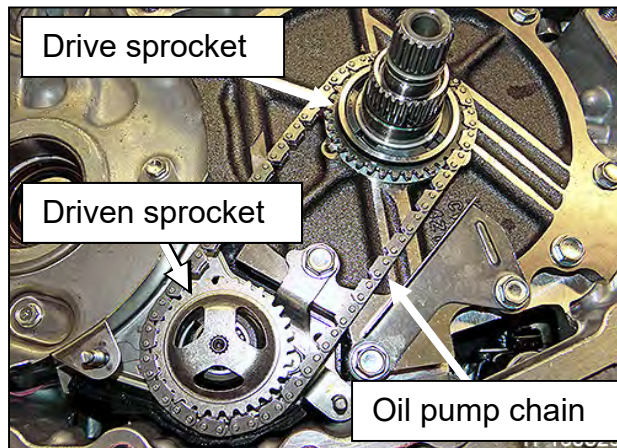

Figure 40
23. Remove the oil pump chain, driven sprocket and drive sprocket as one assembly (Figure 40).